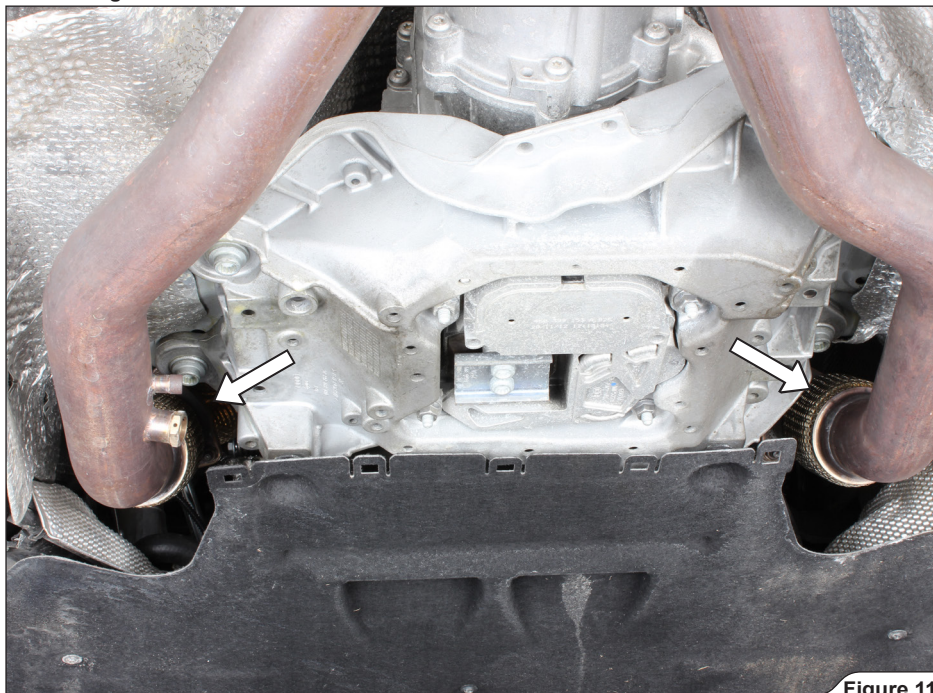

Figure 11
- Support the link pipes, unscrew the marked flanges' nuts and carefully remove the link pipes off the vehicle (**Figure 11, 12**).